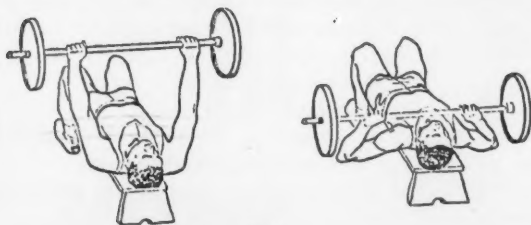

Fig. 6.
• **Bench Press** (chest, arms, shoulders) (Fig. 6). Lying on back on a bench, hold a barbell over your chest with arms extended and palms forward toward your feet. Arms should be slightly farther than shoulder-width apart. Lower the weight by bending your arms, elbows outward to sides, until it touches your chest. When working with free weights, ensure you push the weight up to the starting position.